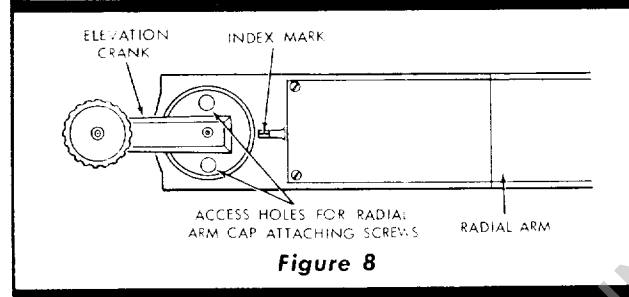

Figure 8
5. After the cross-cut travel has been accurately squared, check the 0° position on the indicator scale of the radial arm cap to determine if the 0° position on the scale is aligned with the index mark on radial arm. (See figure 8.) If not aligned, proceed as follows:
- a. Rotate the elevation crank to a position that will locate the two access holes over screw heads of radial arm cap attaching screws. (See figure 8.)